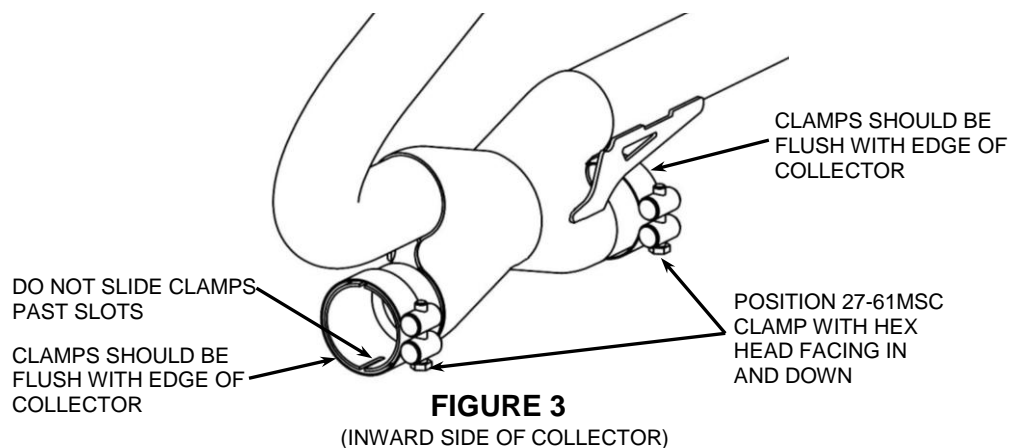

FIGURE 3
9. Position (2) of the supplied #27-61 MSC muffler clamps onto the rear headpipe collector assembly inlet and outlet. The hex head of both clamps should be inward and down. See **FIGURE 3**. (NOTE: The clamps should be flush with the end of the inlet and outlet when tightened. See **FIGURE 3**. If the clamps are slid past the slots on the inlet and outlet the clamps will not tighten properly).
17. Next fully tighten the (2) 27-61MSC clamps on the rear headpipe collector assembly. (NOTE: The clamps should be flush with the end of the crossover assembly inlets when tightened. See **FIGURE 3**. If the clamps are slid past the slots on the crossover assembly inlet the clamps will not tighten properly).